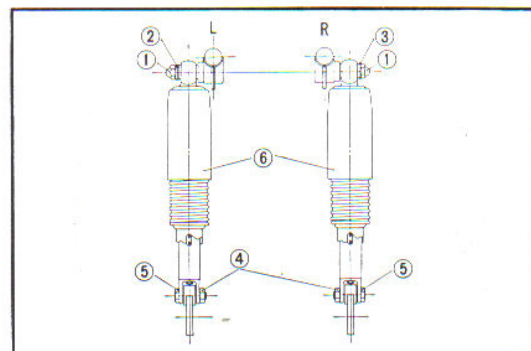

Fig. 4.72 Mounting bolt and nuts of rear cushion
① 10mm cap nut
② Side grip
③ Special washer
④ 10mm thin nut
⑤ 10×36 hex bolt
⑥ Rear cushion
2. Install the cushion in the reverse order of disassembly. (Fig. 4.72)